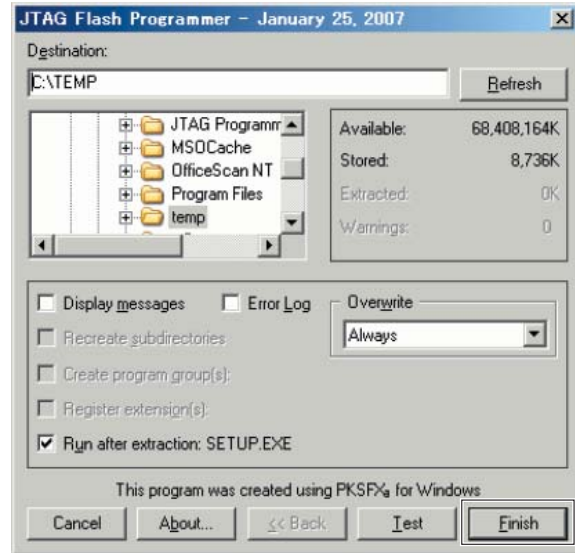

Fig. 1 Install screen
- 3) Double click the StandaloneJTAG\_1\_20, and the following install screen appears. (Fig. 1)